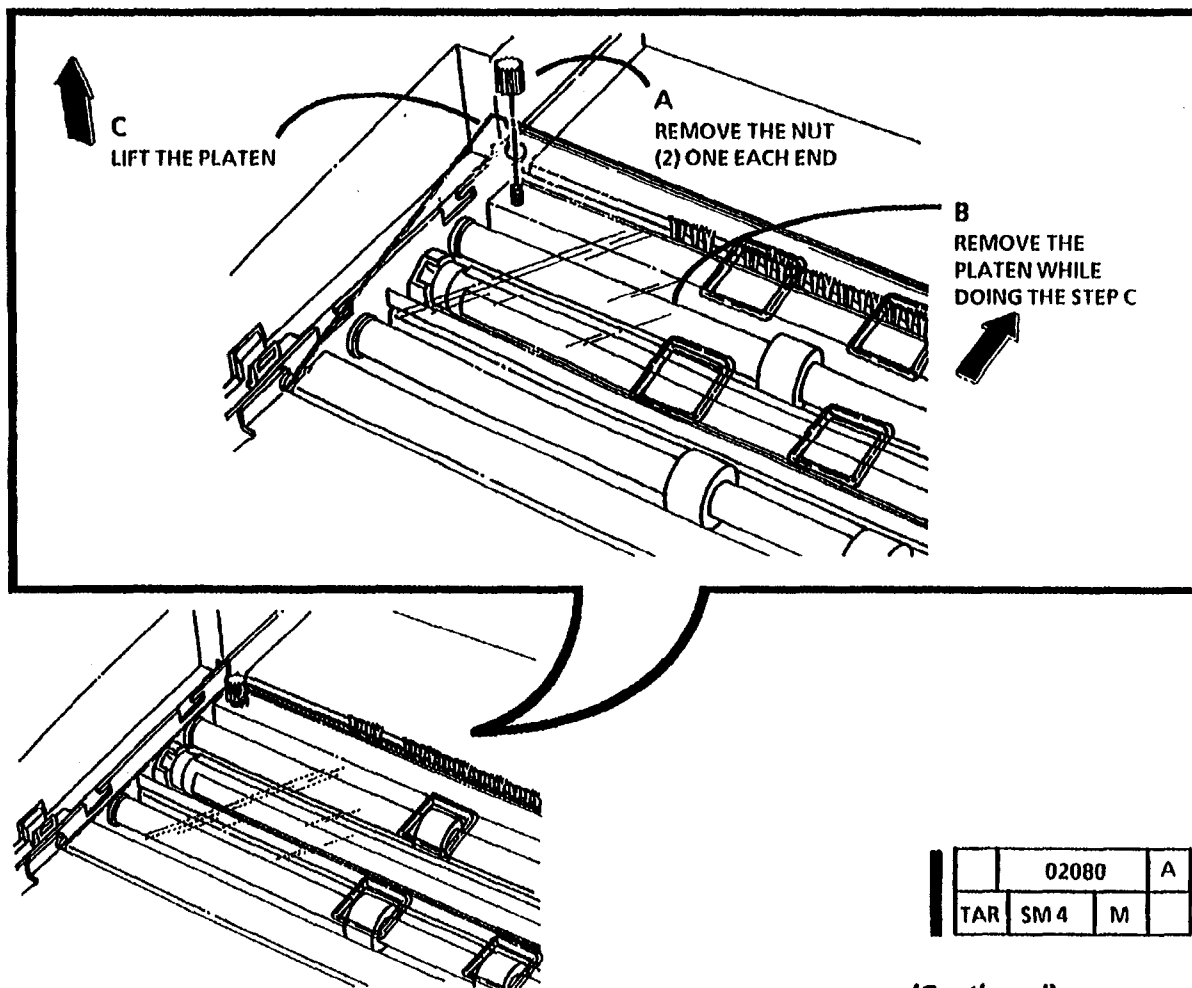

Figure 1. Remove the Platen
3. (Figure 1): W/ Tag/MOD 2: Remove the Platen.